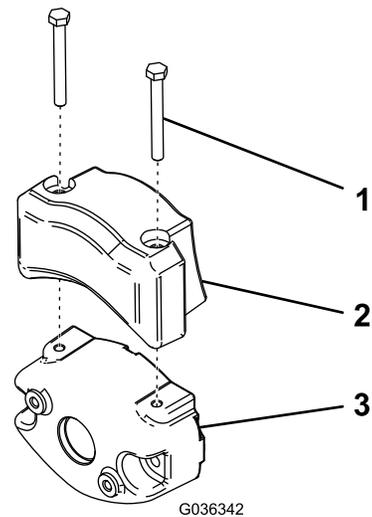

Figure 60
2. Secure the electrical counterweight to the existing counterweight with 2 capscrews as shown in Figure 60.